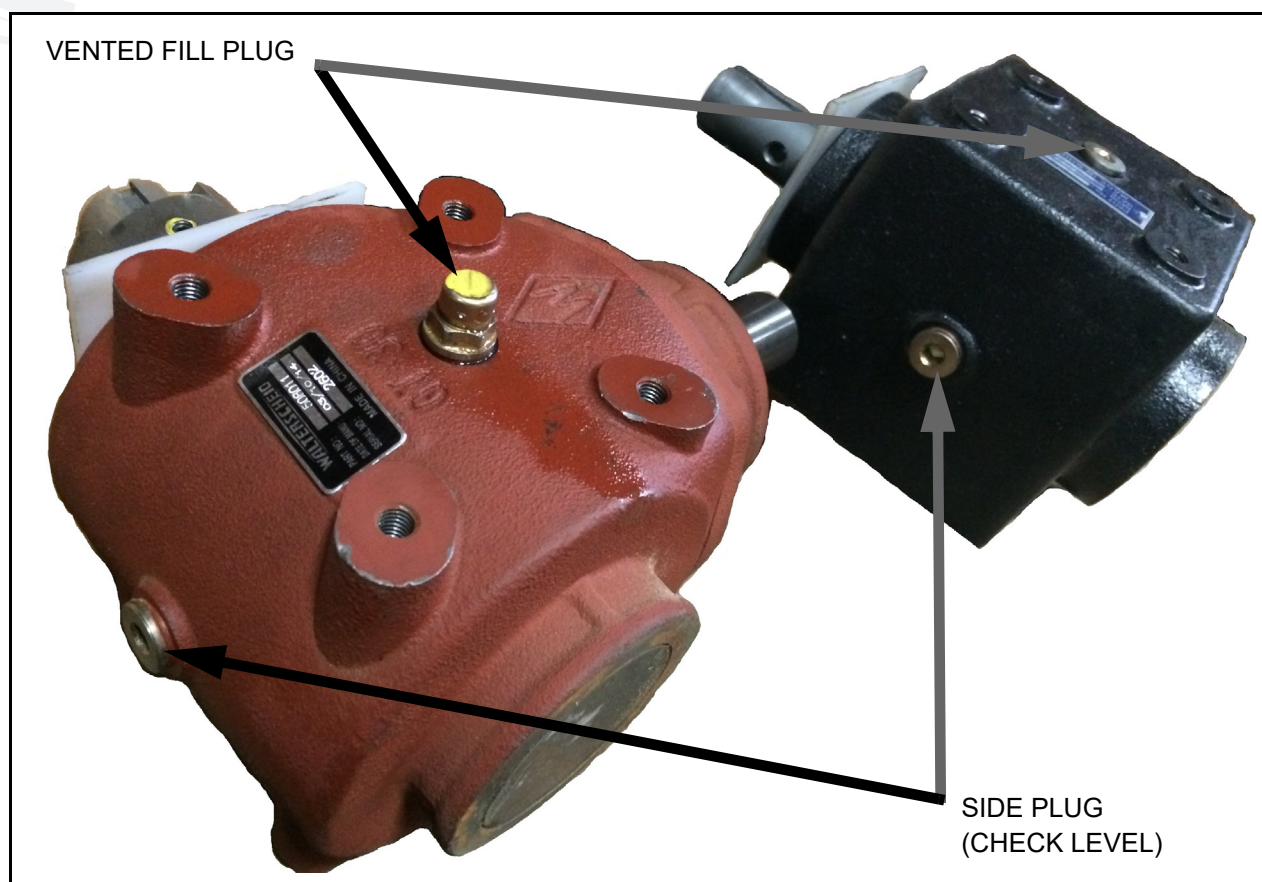

Figure 5.20 Plugs for Walterscheid (red) and Star (black) Gearboxes
To perform maintenance on the gearbox, it may be necessary to remove the gearbox completely. The gearbox brand mounted on your GrainVac may be Walterscheid (red color) or Star (black color) (see Figure 5.20).
1. Remove the plug on the side of the gearbox nearest the front of the GrainVac (see Figure 5.20).
The vented fill plug on top of the gearbox contains the breather for the reservoir (see Figure 5.20).